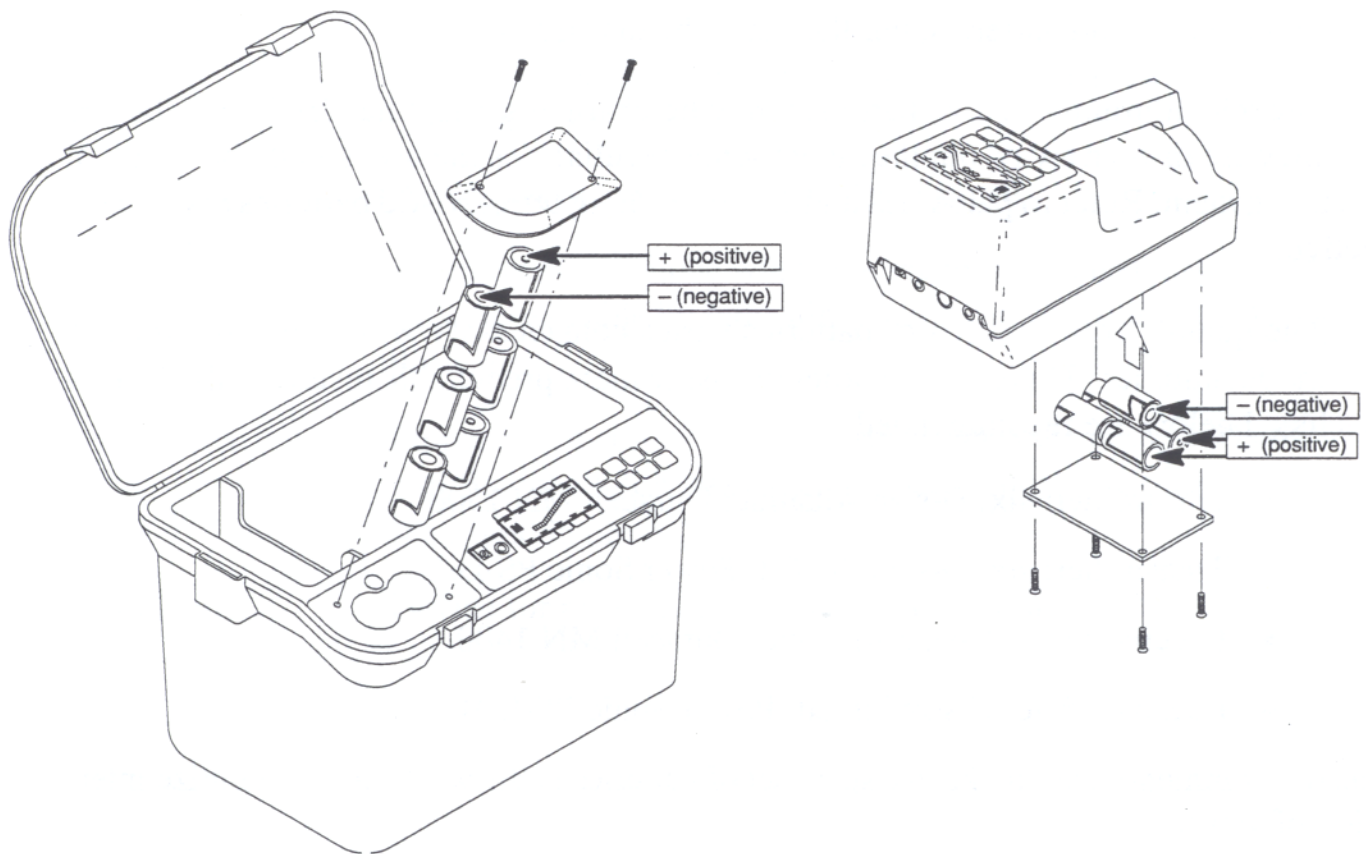

Fig. 6-1 Transmitter and Receiver Battery Replacement
- 1.5 To install or replace the Transmitter batteries, remove two screws from the battery compartment cover to the left of the display. Refer to Fig. 6-1. Always remove and replace the entire set of six batteries. Install the new batteries according to polarity markings next to the battery compartment. Replace the battery compartment cover and tighten the screws.
1.6 To install or replace the Receiver batteries, remove four screws from the battery compartment cover located on the bottom of the Receiver. Refer to Fig. 6-1. Remove all five batteries from the battery cavity. Install the new batteries according to polarity markings shown in the figure.